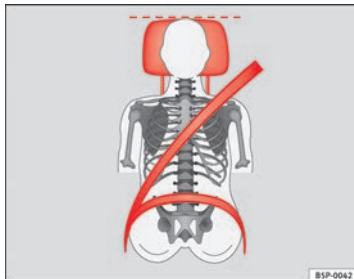

Fig. 12 Correct seat belt and head restraint positions, viewed from front
- The shoulder belt must be positioned around the middle of the shoulder. The seat belt must lie flat and snugly on the torso ⇒ Fig. 12.